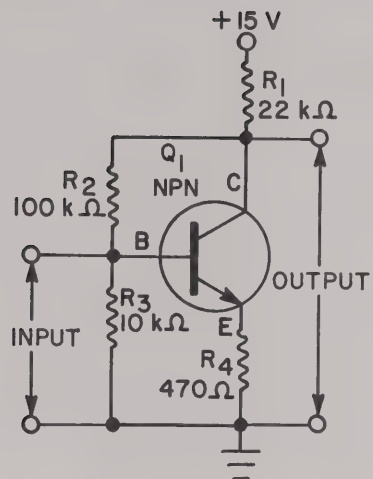
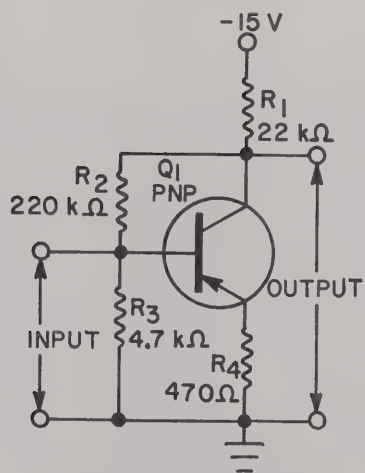
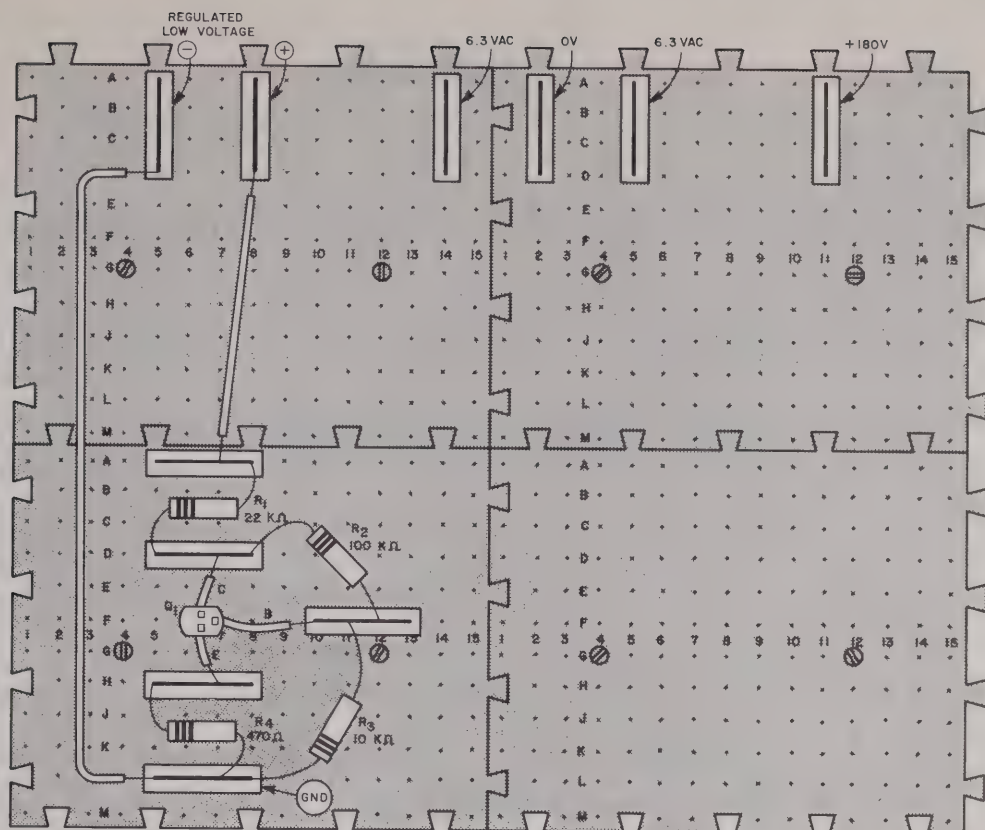

FIGURE 5-1
FIGURE 5-5
FIGURE 5-2
1. Figure 5-1 shows a common-emitter transistor amplifier circuit employing an NPN silicon transistor. Construct the circuit of Figure 5-1 on your design console, following the layout of Figure 5-2. (This includes the insertion of the NPN silicon transistor.) Refer back to Experiment 1 for the information on transistor connections. Be especially careful that you make the proper connections to the modular connectors that supply the output voltage from the design console power supply. Make sure that the design console power supply is turned off while you are constructing the circuit.
The circuit values have been chosen so the collector voltage will be about half the supply voltage, approximately 7 volts. By using the stabilizing arrangement shown in Figure 5-1 (the bias resistor R_2 is connected to the collector and the unbypassed resistor, R_4 , is connected to the emitter), the dc operating characteristics will not vary widely with changes in transistor beta.
5. Even though a stabilizing arrangement is employed in the circuit of Figure 5-1, the dc operating conditions will still vary with changes in the value of bias. (Remember, bias determines the base current.) To show the effects of a change in bias, connect a 220 k Ω , 1/2 W, resistor in parallel with R_2 . Turn off the design console while making this change. This lowers the effective value of R_2 , and increases the value of base current. Turn on the design console. Measure the voltages at the emitter, base and collector (with respect to ground) and record the values below. Make sure that the supply voltage is still set at 15 volts.
6. Now, let's examine the effects of reducing the base-to-emitter voltage to zero. This should cut off the transistor. Turn off the design console. First remove the 220 k Ω resistor that was connected across the 100 k Ω bias resistor R_2 in Figure 5-1, as well as the 100 k Ω resistor, R_2 . Next connect a jumper wire from the base to the emitter of the transistor. Turn on the design console, and reset the power supply output to 15 volts.
1. Figure 5-5 shows the circuit of a common-emitter amplifier employing a germanium PNP transistor. The only differences between this circuit and the NPN circuit of Figure 5-1 are the transistor, the polarity of the supply voltage and the values of the bias resistors. Set up the circuit of Figure 5-5 using your PNP transistor. You can use the layout of Figure 5-2 as a guide, but be sure to reverse the power supply connections and use the proper values for R₂ and R₃.
2. Turn on the design console, and set the power supply to 15 volts. In the PNP circuit the + power supply terminal is the ground (or reference point), as shown in Figure 5-5. Measure the voltages at the emitter, base and collector with respect to ground (GND) and record below. Note: All readings should be shown as negative.
3. B - REFERRING TO THE CIRCUIT OF FIGURE 5-1, IF BASE CURRENT INCREASES, -- THE VOLTAGE AT THE COLLECTOR DECREASES.
5. A - WHEN A JUMPER IS CONNECTED FROM THE BASE TO THE EMITTER OF Q_1 IN THE CIRCUIT OF FIGURE 5-5, -- THE VOLTAGE AT THE COLLECTOR BECOMES MORE NEGATIVE.
6. B - WHEN A RESISTOR IS CONNECTED IN PARALLEL WITH THE BIAS RESISTOR R_2 IN FIGURE 5-5, -- THE VOLTAGE AT THE EMITTER INCREASES.